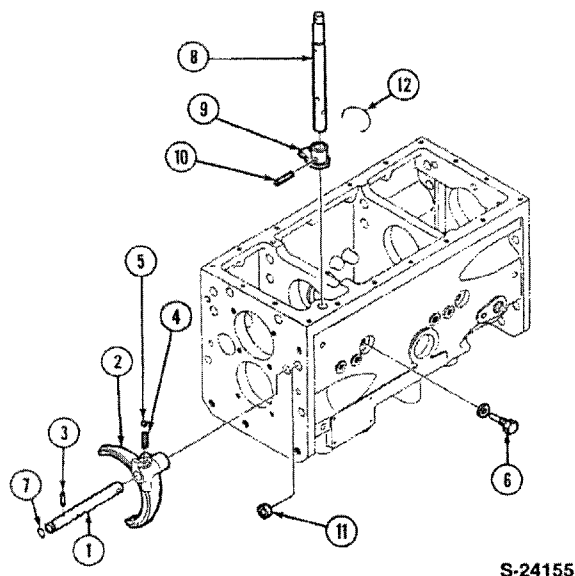

Figure 148
5. Remove the retaining bolt (6), Figure 148, and slide the shift rail forward out of case.
6. Remove the fork (2), detent ball (5) and spring (4), Figure 148.
7. Remove the O-ring (7) from the shift rail.